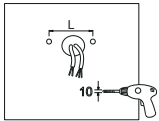

Figure 33
3. FLOOD MOUNTING (FM)(suitable for all power of this series)
Step 1: Drill holes on the wall as shown(Figure 33);